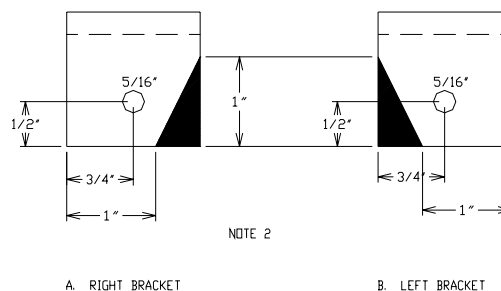

FIG 1. BRACKET CONSTRUCTION
1. CUT TWO 1 1/2 INCH PIECES FROM STOCK ALUMINUM ANGLE (L1 977). ON ONE LEG OF EACH PIECE CUT TO 1 1/2 INCHES. IN THREE INCH LEG OF BOTH PIECES, DRILL 7/16 INCH HOLE AT DIMENSIONS SPECIFIED IN FIG 1.
2. IN 1 1/2 INCH LEG OF BOTH PIECES, DRILL 5/16 INCH HOLE AT DIMENSIONS SPECIFIED IN FIG 1. SHADED AREA OF BOTH PIECES MUST BE REMOVED TO ACCOMMODATE WHEEL MOUNT ON 3B2-600.